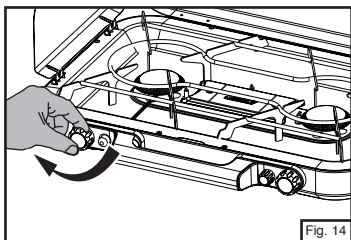

Fig. 14
- Close all three burner valves firmly. (Fig. 14)